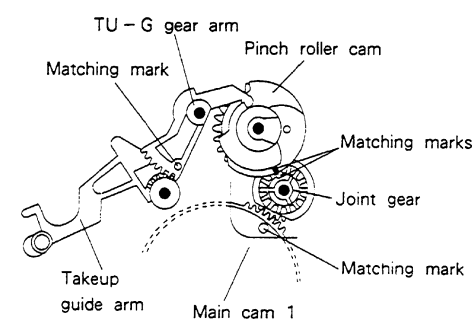

Fig. 2-13-3
- D. Line the matching mark on the gear arm and beginning of gear section on the takeup guide arm, and line the matching mark on the pinch roller cam and Center of gear on the joint gear as shown in Fig. 2-13-3, and install the pinch roller cam and the TU-G gear to the shaft at the same time.